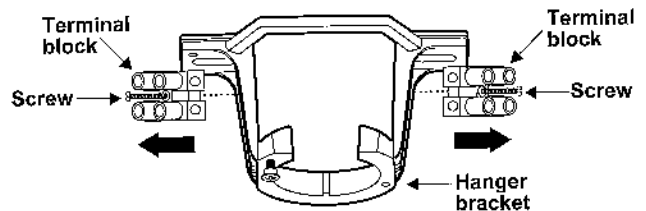

Figure 6
3. Remove the two terminal blocks from the two side of the hanger bracket and keep them for future use. (Fig. 6)